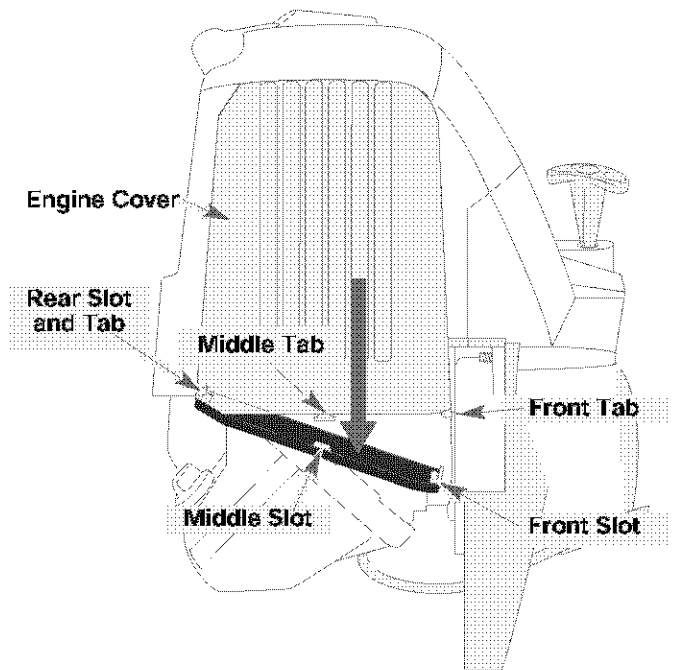

Fig. 51
1. Remove the muffler cover by pressing down on it, separating it from the engine cover. Using a flat blade screwdriver, disengage the middle and front tabs and slots first. The cover will hinge off from the rear tab (Fig. 51).
- Reinstall the muffler cover. Slip the rear tab on the muffler cover into the engine cover rear slot. Then slide the remaining slots into the taps until they snap into place (Fig. 51).